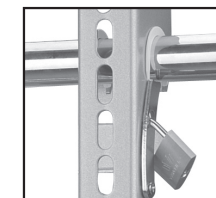

Fig. 7 - A small padlock can be used to help prevent theft of your display (padlock not included).
1. With the help of another person, carefully lift your display and place it on the wall plate (Fig. 7). To avoid damage to the wall, allow the tilt legs to come into contact with the wall slowly. Do not release the display until the mounting arms have securely hooked onto the crossbars!
2. Move the safety tab located on each arm into position to avoid having the display accidentally lifted from the mount. A padlock can be inserted into one of the tabs to help prevent theft of your display (Fig. 7).